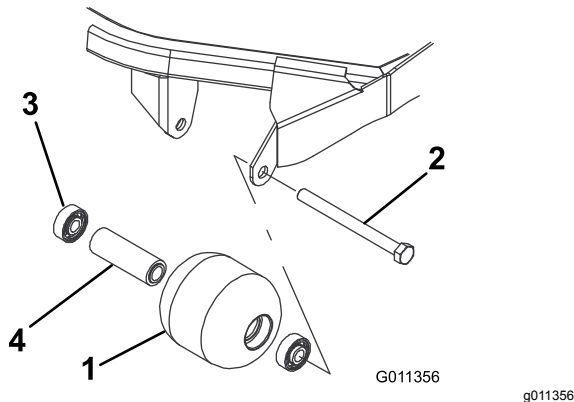

Figure 86
1. Remove the roller-mounting bolt (Figure 86).
4. Inspect the roller housing, bearings, and bearing spacer for damage (Figure 86).
1. Press the first bearing into the roller housing (Figure 86). Press on the outer race only or equally on the inner and outer race.
2. Insert the spacer (Figure 86).
3. Press the second bearing into the roller housing (Figure 86) pressing equally on the inner and outer race until the inner race comes in contact with the spacer.